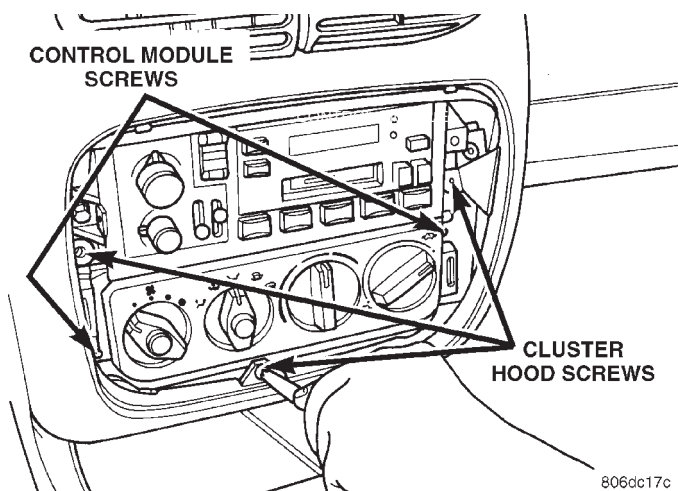

**Fig. 30 Control Module Screws**
(3) Remove cluster hood bezel retaining screws in the trim bezel opening (Fig. 30).